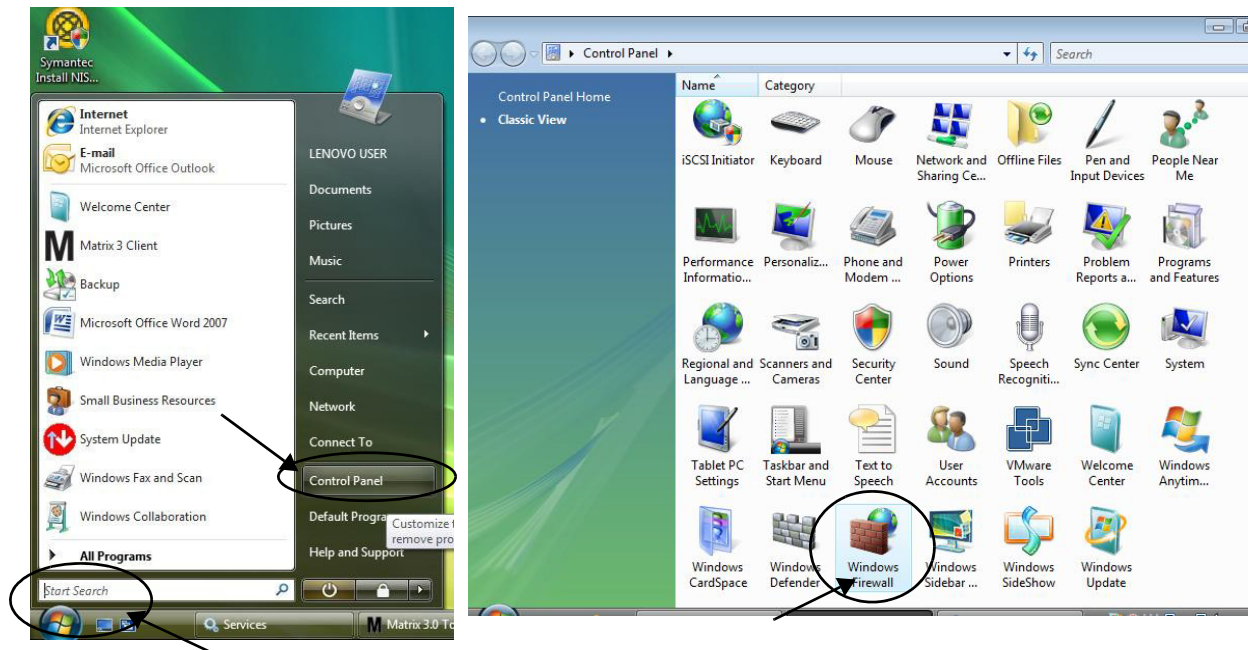

FIG. 26
1. Click on Start/Control Panel. Then select Windows Firewall (FIG. 26).